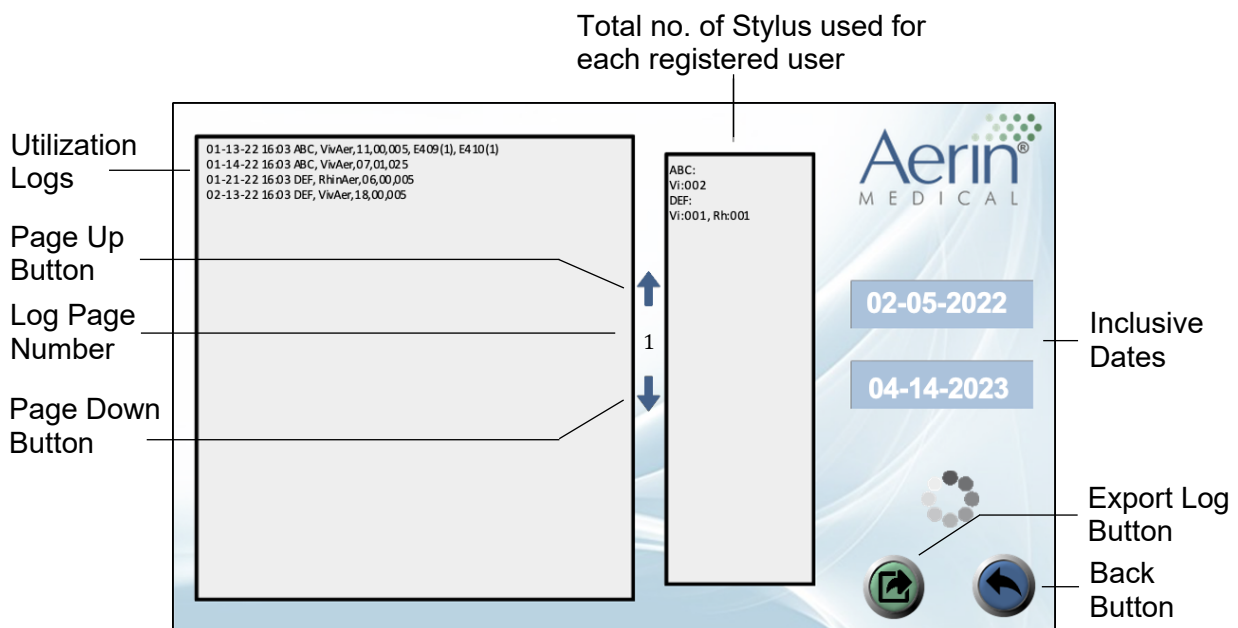

Figure 3.6 Utilization Log Page
- Utilization Log Button – Goes to the Utilization Log Page (Figure 3.6)